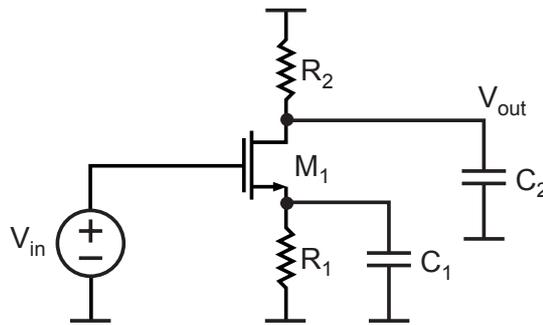

Figure 1: Zero-peaked amplifier.
1. The following is based on Problem 8 in Chapter 8 of Thomas Lee's book. Consider the zero-peaked amplifier shown in Figure 1.